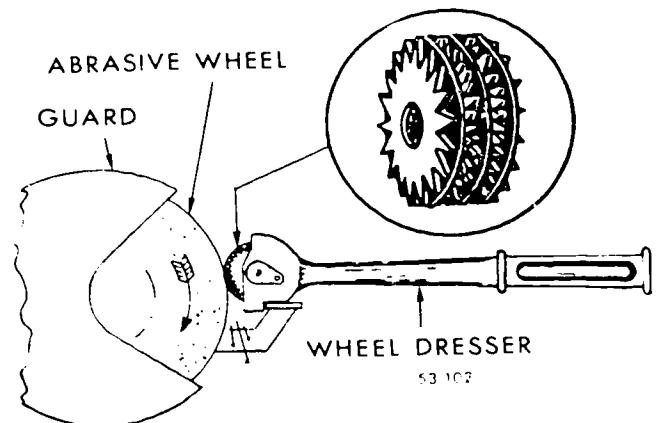

Figure 1-27. Wheel dresser.
**Preparing the Abrasive Wheel.** Before grinding a twist drill, you should check the wheel and dress it, if necessary. The terms "dressing" and "trueing" are frequently confused. Dressing is the reconditioning of the abrasive surface of a wheel that has lost some of its cutting ability. This is caused by glazing or loading up (filling the spaces between abrasive particles) or dulling the abrasive particles. Trueing is restoring the abrasive wheel to its correct geometrical shape. Trueing is not required as frequently as dressing. The Huntington-type dresser (fig. 1-27), which consists essentially of a number of circular metal cutters mounted on a spindle in a holder, is the most commonly used type of offhand dressing tool. Figure 1-27 shows this tool. The dulled abrasive grains and any loading of metal or foreign material are being removed so that sharp grains will
be presented to the work. Before using the wheel dresser, position the tool rest so that the legs of the dresser may be hooked over it, as shown in figure 1-27. When you turn on a grinder, always stand aside until it attains operating speed. If there is a defect in a wheel, it will disintegrate. To dress a wheel as in figure 1-27, you hold the dresser firmly against the rest and as you raise the handle of the dresser to make contact with the wheel, move it in a steady motion back and forth across the face of the wheel. Too much pressure causes excessive sparking and rapid cutter wear.